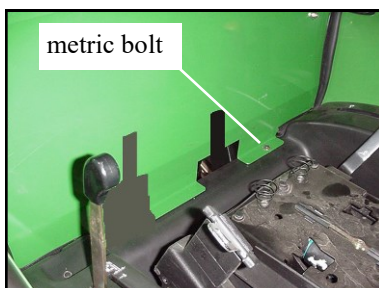

Fig. 2.3.1
- 1.5 Drill an oversized hole (3/8" dia.) thru plastic located behind seat and shown in fig. 1.5. The drilled hole is to be exactly over the center of the left weld nut. Transfer the hole location from the bottom up. (Note: take precautions to avoid damaging the metric threads in the nuts welded below.) ( Suggestion: wedge plastic up in the air with a small piece of wood to keep drill bit away from weld nut threads.) This hole will be used to fasten the rear panel assembly in place (ref.: see fig. 2.3.1).
- 2.3 With assistance, and from the side of the tractor, place the pre-assembled unit behind the seat and in between the roll bar uprights (see fig. 2.3). (Make sure the rubber seal that will rest on top of the fenders is facing outwards.) Secure the bottom of the rear panel (thru the newly drilled hole) to the left metric weld nut already in place. (See fig. 2.3.1) Use a 6mm x 1.0 x 20mm long hex. head bolt and 6mm flat washer from the hardware kit.